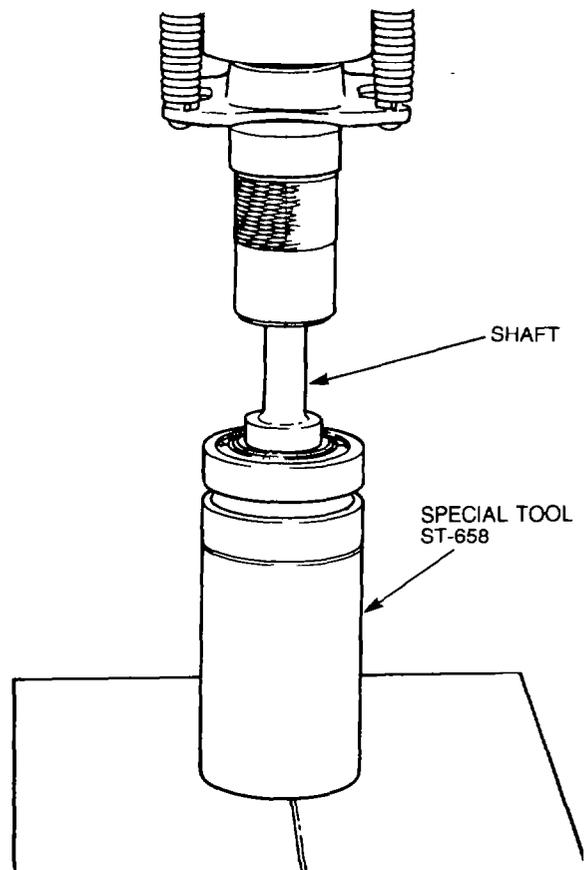

Figure 68 — Water Pump Bearing — Installation
- e. Lubricate the water pump shafts bearing surface with a thin coat of clean lubricating oil, then using special tool ST-658 to support the inner bearing, press the pulley end of the shaft through the bearing until the shoulder of the shaft seats against the bearing race (see Fig. 68)